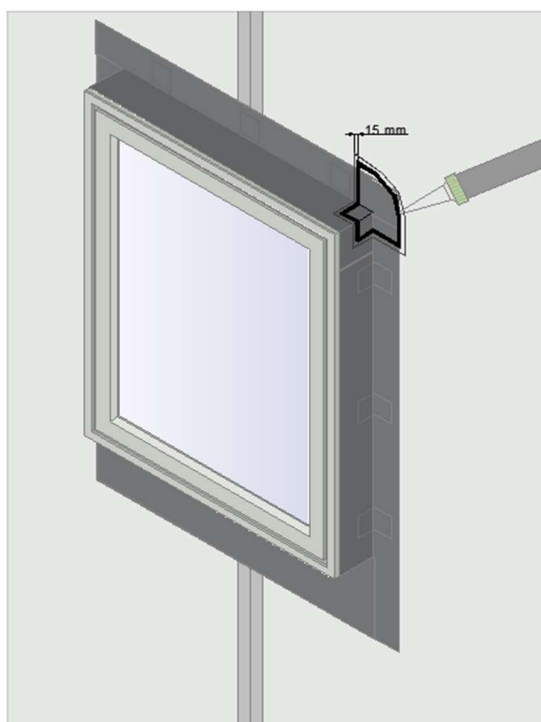

Figure 14
- ME241 corners are bonded using illbruck OT015 High Tack Membrane Adhesive. Apply a 10 mm diameter continuous bead of OT015 15 mm inside of the line indicating the proposed location of the corner. (Figure 14).